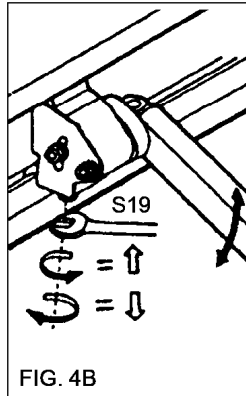

FIG. 4B
- * adjust the height by turning the lower adjusting bolt (fig. 4B).